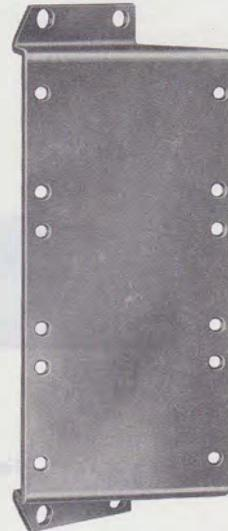

Fig. 45—813722048 (P-37B204) Bracket
10.04 The 813722048 (P-37B204) bracket (Fig. 45) is used to mount angle-bracket type KTUs on 15A, 16-type, 26A and 31-type apparatus mountings. Twelve tapped holes permit front and rear mounting of single- and double-space KTUs. Furnished with four 803535012 (P-353501) SPLHM screws for attaching to the apparatus mounting.